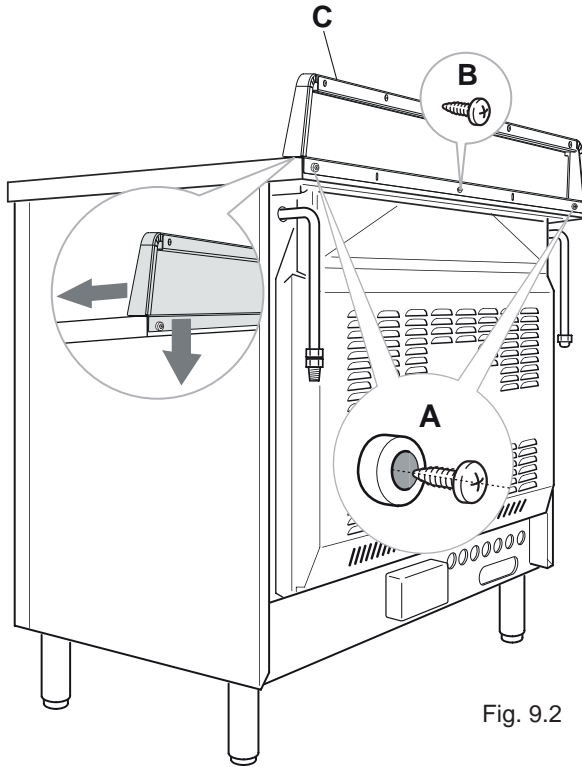

Fig. 9.2
Before installing the cooker, assemble the backguard "C" (fig. 9.2).
- Assemble the backguard as shown in figure 9.2 and fix it by screwing the central screw "B" and the spacers "A".